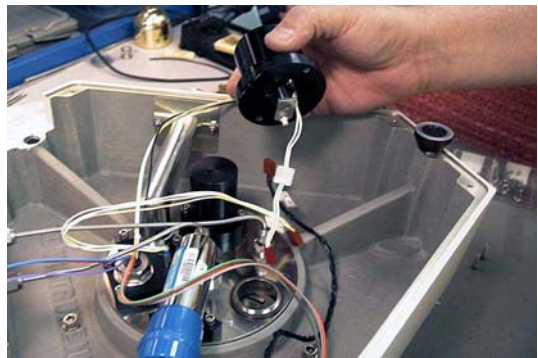

Figure 11
- 11 Install the engage solenoid as shown in Figure 11, 12, 13, and 14. The pin and bushing on the engage solenoid arm should engage the engage plate as shown in Figure 16 and 17, when installed correctly.